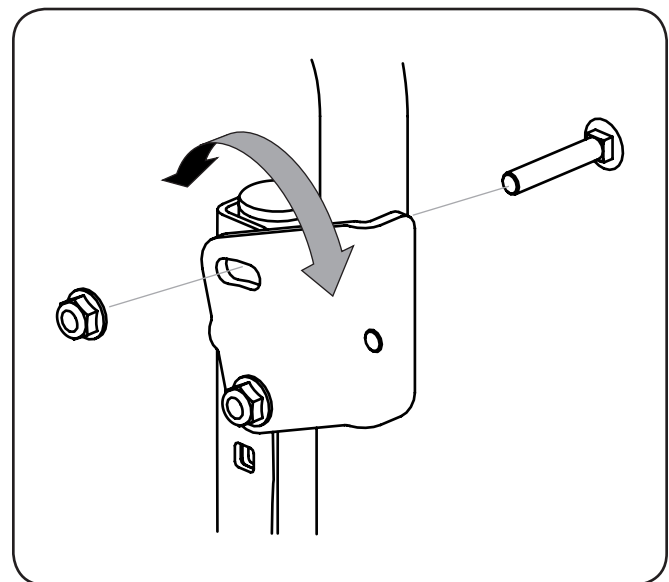

Figure 3-8
2. Lift and swing that control lever upward until the slotted hole in the lever bracket aligns with one of the holes in the pivot bracket. See Figure 3-8.
3. From the inside insert the carriage bolt through the control lever slot and the hole of the pivot bracket. Secure with the flange lock nut. See Figure 3-8.